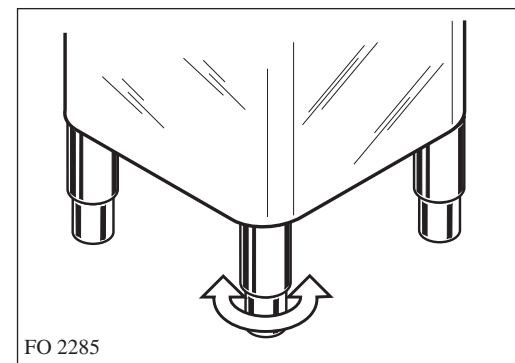

Fig. 3
6. If necessary, adjust the cooker horizontal levelling by turning the bottom part of the feet, until the appliance is completely stable. (Fig. 3). A spirit level should be placed on a cake tray on one of the shelves to confirm that the appliance is correctly levelled.